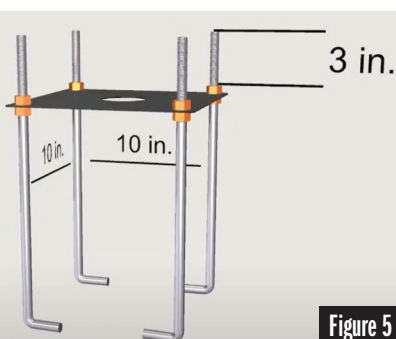

Figure 5
- Assemble the Bolt Plate (Part A) and J-Bolts + Hardware (Part B) using (8) 5/8" Nuts as shown in Figure 5. Set aside the rest of the hardware for the hoop installation.